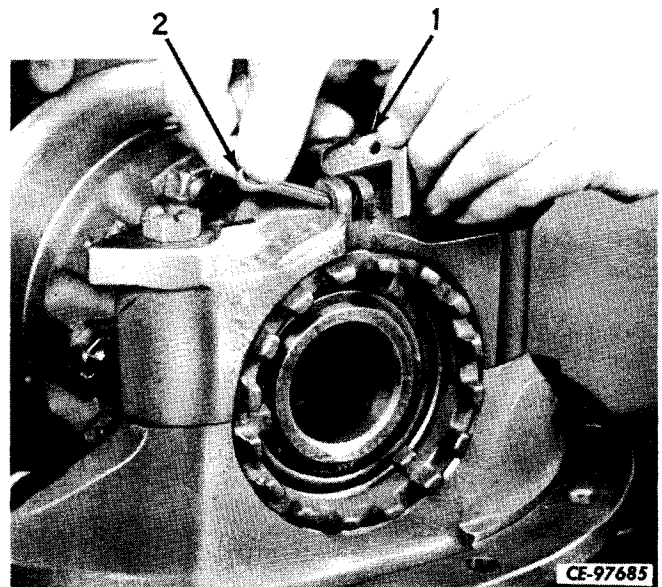

Figure 6-24
Remove adjuster lock (1, Fig. 6-24) by removing cotter pin (2).